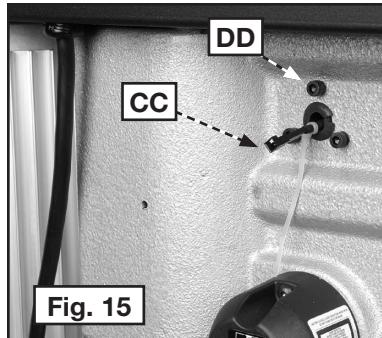

Fig. 15
The included LED work light is to be attached to the side of the headstock at wire (CC) Fig. 15.
1. Remove three 6 mm screws (one shown at DD) Fig. 15.